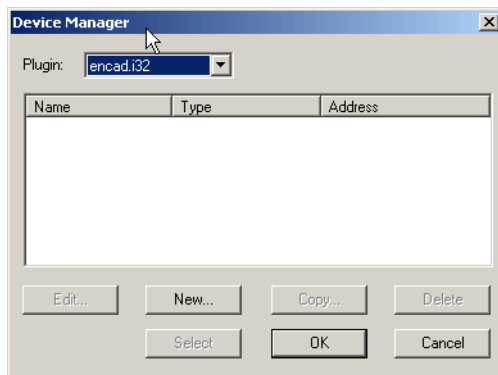

Figure 9 Device Manager
1. Select Harlequin RIP > Device Manager to open the Device Manager (Figure 9).